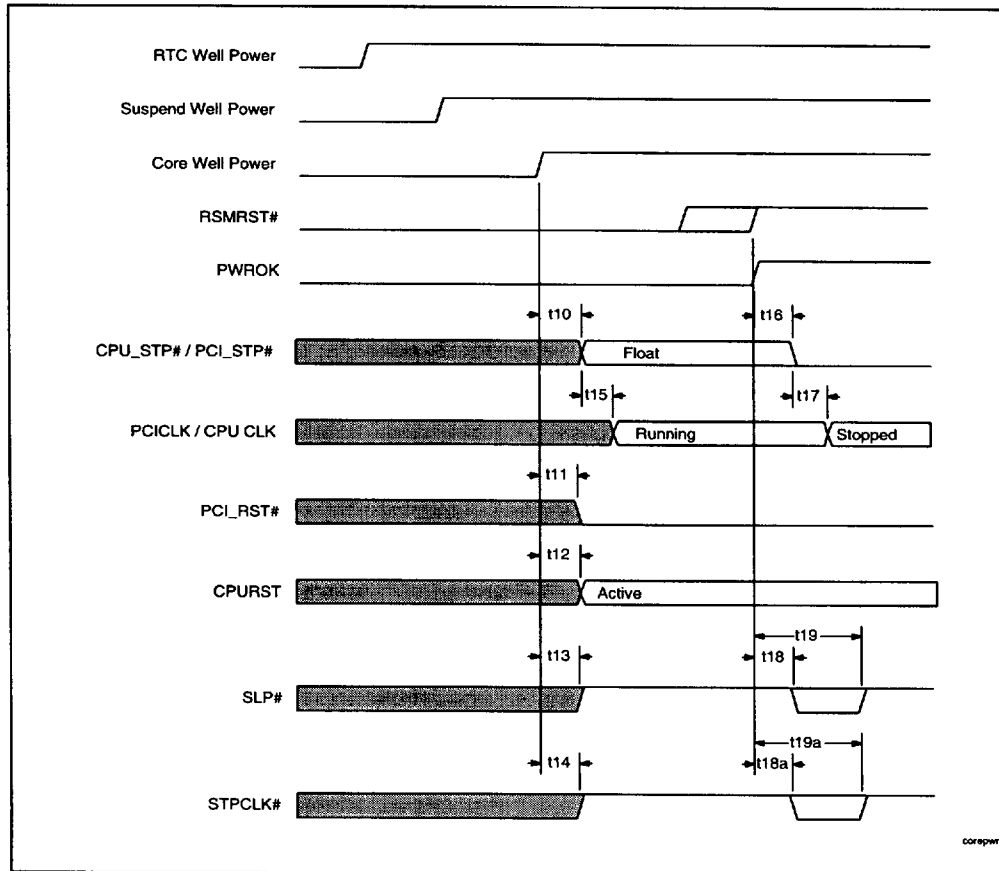
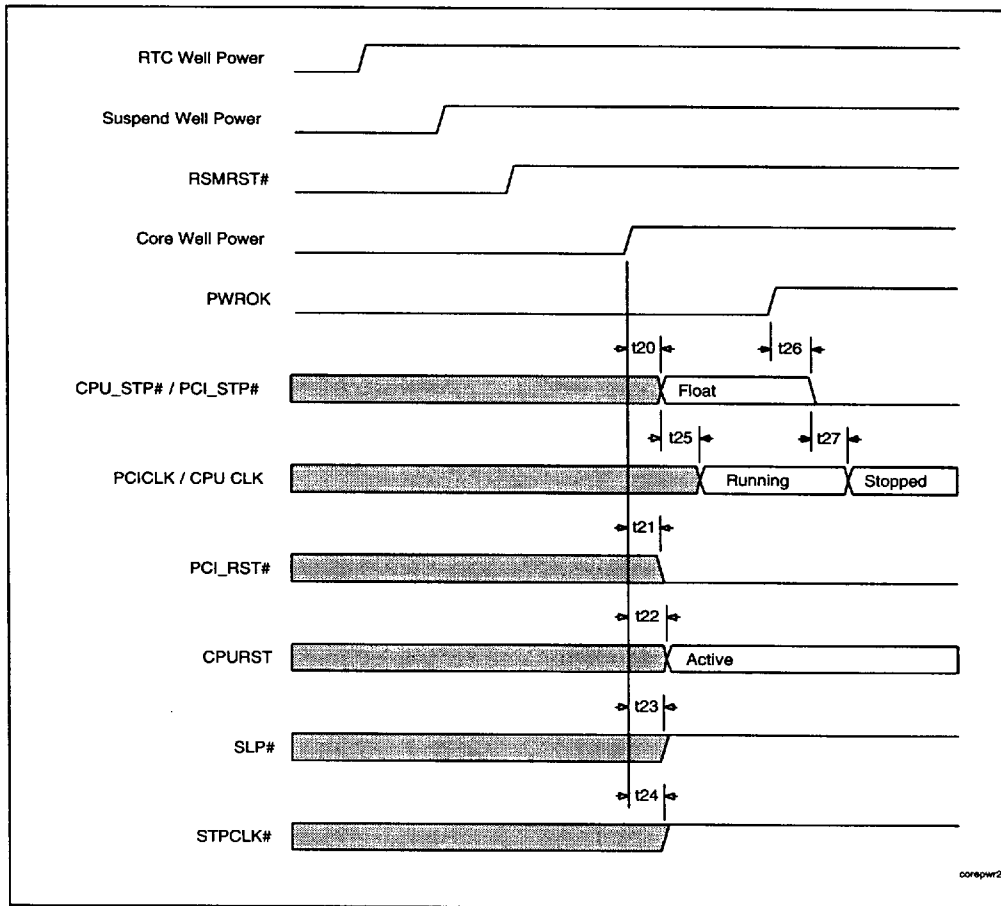
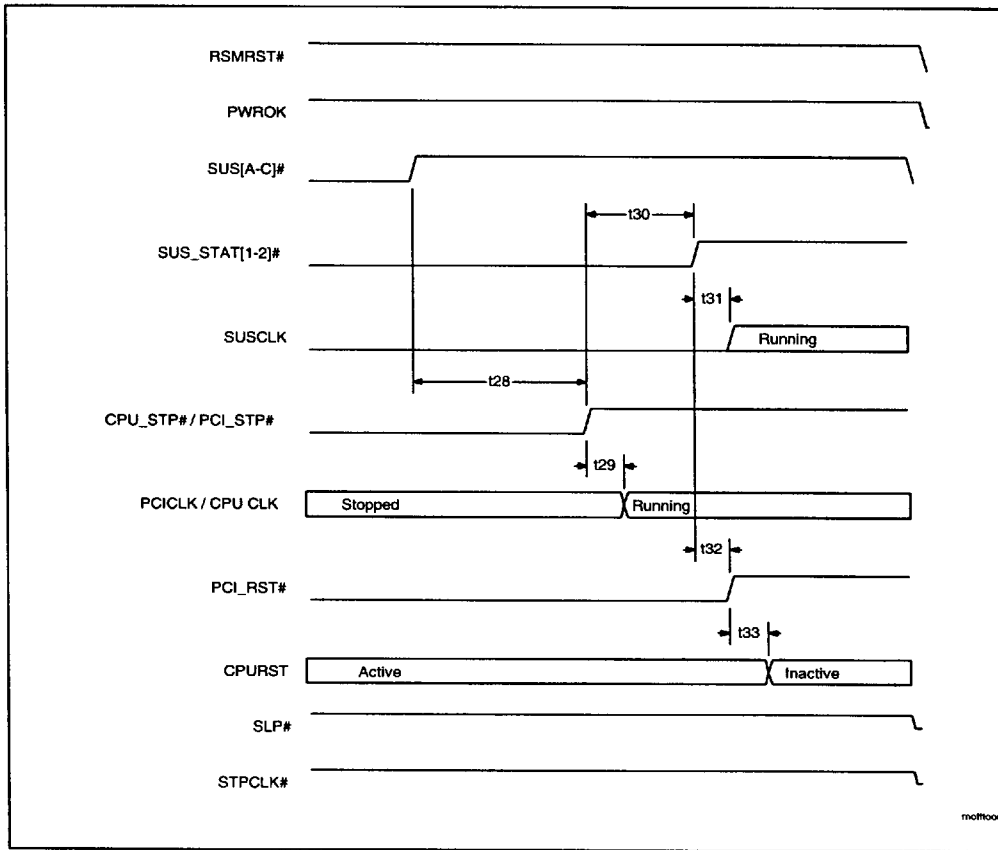

Figure 20. Core Well Power and PWROK Activated Signals (Core Well Power Applied Before RSMRST# Inactive)
Figure 21. Core Well Power and PWROK Activated Signals (RSMRST# Inactive Before Core Well Power Applied)
Figure 22. Mechanical Off to On
Figure 20 shows the timing relations for Power Management signals powered from the PIIX4 Core well. Here the power active status signals (RSMRST# and PWROK) transition after the application of all power to PIIX4. It can be applied to situations where two or more of the PIIX4 power planes are connected together. It also shows timings when RSMRST# and PWROK are connected together.
- There are no specific requirements for these timings related to PIIX4. The system manufacturer should make sure that the clocks on power up meet any other system specifications. As a minimum, the clocks must be available and stable after time t30 shown in Figure 22.
Figure 21 shows the timing relations for Power Management signals powered from the PIIX4 Main Core well. Here the Suspend well power active status signals (RSMRST#) transition before the application of Core well power to PIIX4.
2. There are no specific requirements for these timings related to PIIX4. The system manufacturer should make sure that the clocks on power up meet any other system specifications. As a minimum, the clocks must be available and stable after time t30 shown in Figure 22.
Figure 22 shows the transition from a Mechanical Off condition to the On condition. The signal states begin at the final states shown in Figure 20 and Figure 21.